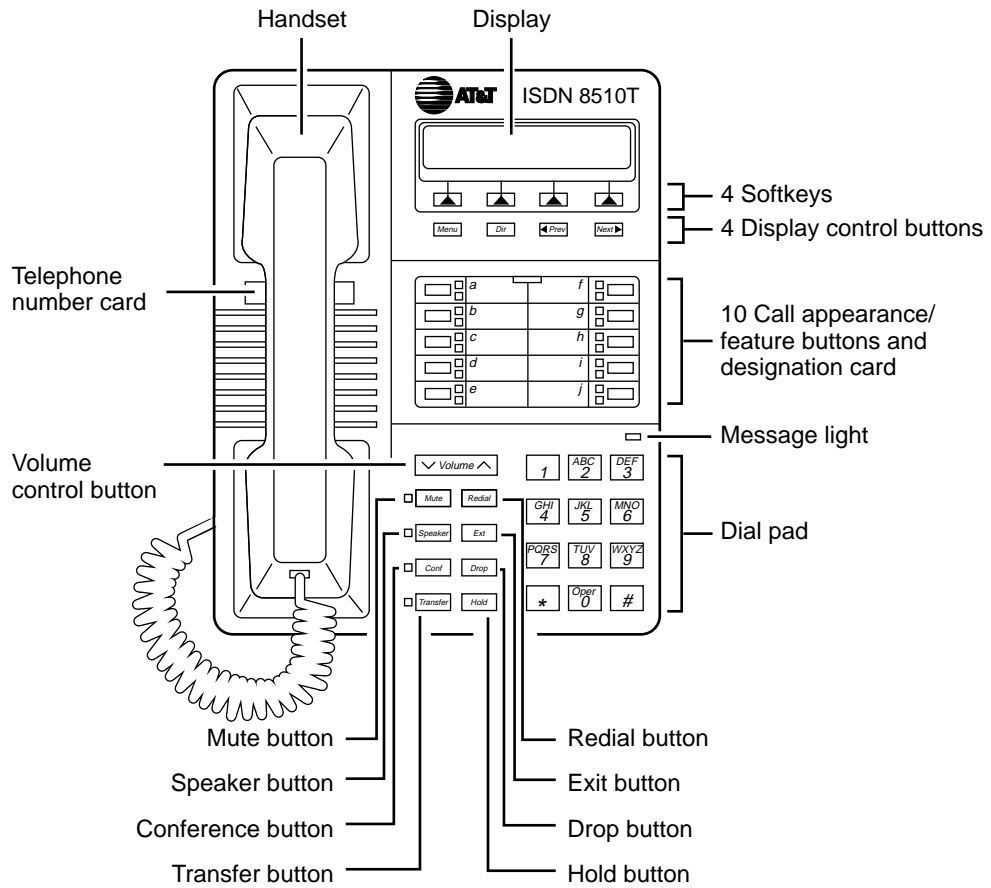
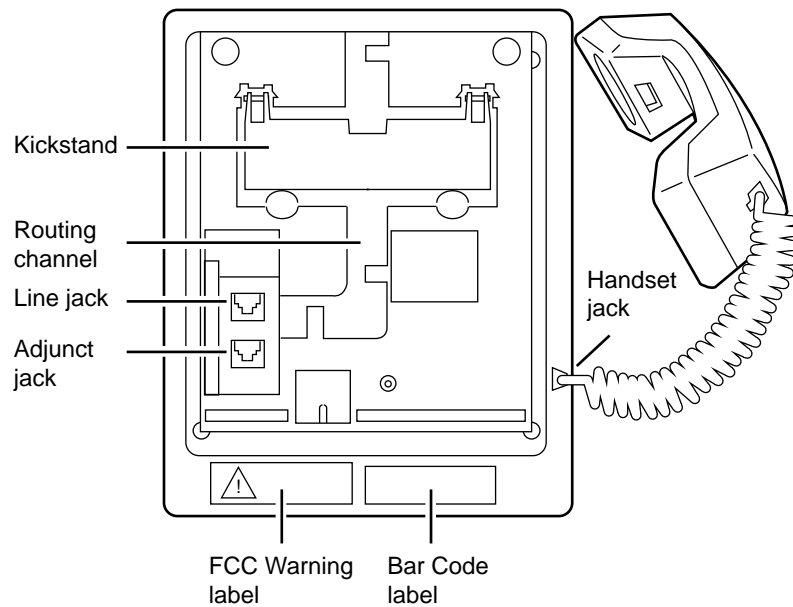

FIGURE 7-11. Front View of the 8510T Voice Terminal
FIGURE 7-12. Back View of the 8510T Voice Terminal (without Desktop Stand)
Figure 7-11 shows you the front of the 8510T voice terminal. Figure 7-12 shows the back of the voice terminal.
4. Snap the adjunct cord into the Adjunct jack until you hear a click. See Figure 7-12 for the location of the Adjunct jack.